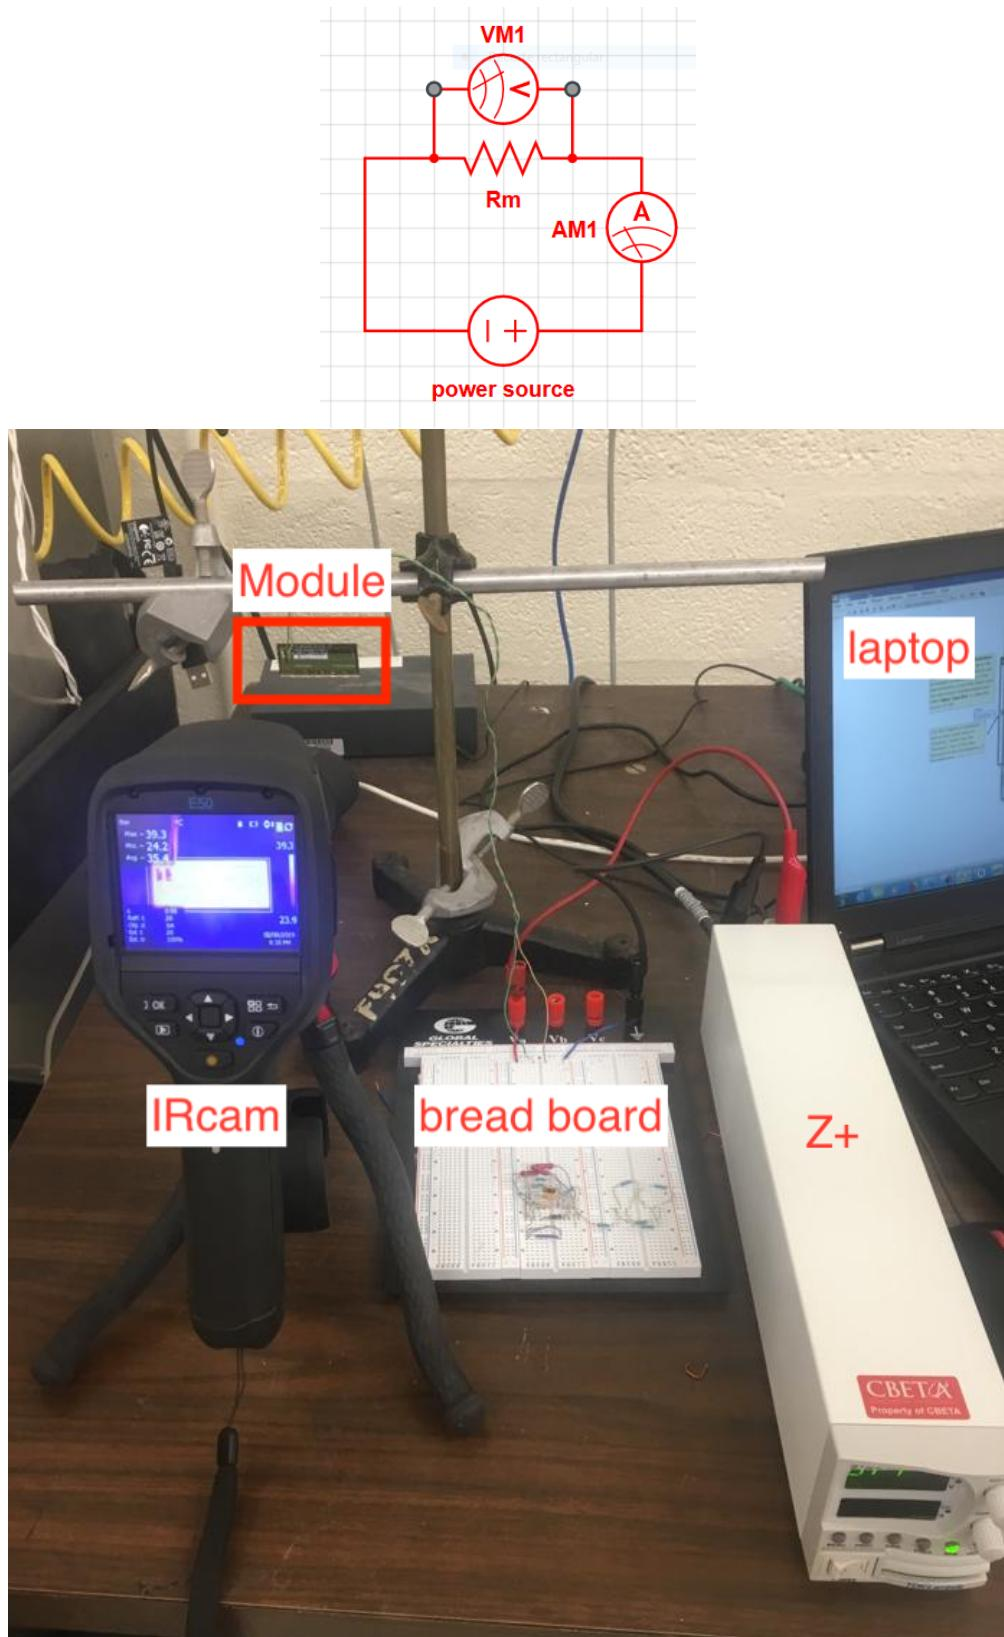

Figure 1: Electrical and Thermal resistance measurement circuit and setup.
1. Mount the circuit according to the schematic in Figure 1 left.
2. Mount the module on the brace of the support as shown in Figure 1 right.